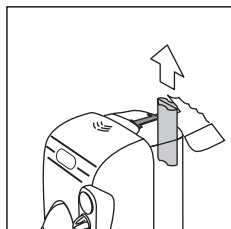

fig. 2
- Lift the water tank lid and remove the chlorine filter holder from its housing by lifting it upwards (fig. 2).